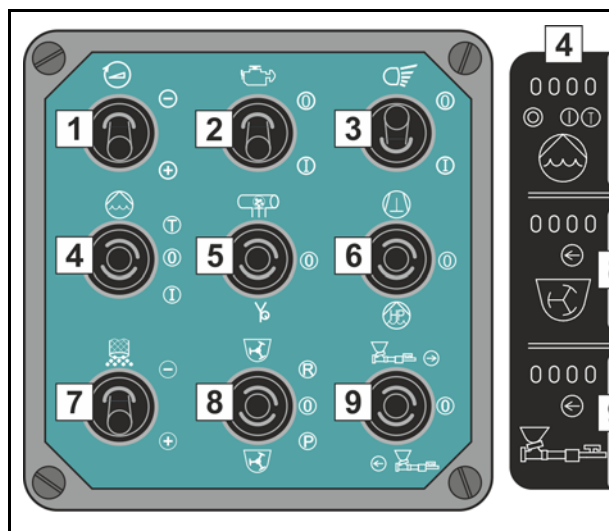

Fig. 570 Local control keypad
- If you switch on the HP pump using the local control (6)  (**Fig. 570**), the pump will draw its water from your machine's water case. If the trigger is not actuated, the HP pump cannot pump water to the spray lance.